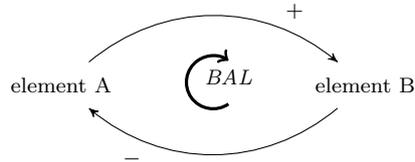

FIGURE 2 Generic Reverse Blueprint (RBP) representing a *balancing* feedback loop
- Reverse blueprints — RBP_[T] (Figure 2)